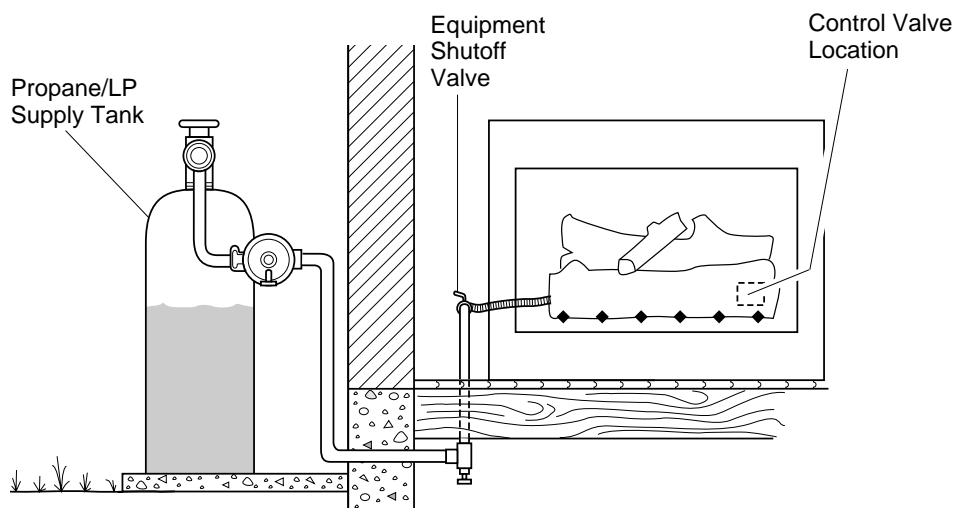

Figure 16 - Checking Gas Joints
3. Check all joints from propane/LP supply tank to equipment shutoff valve (see Figure 16). Apply a noncorrosive leak detection fluid to gas joints. Bubbles forming show a leak.
4. Check all joints from equipment shutoff valve to control valve (see Figure 16). Apply a noncorrosive leak detection fluid to gas joints. Bubbles forming show a leak.